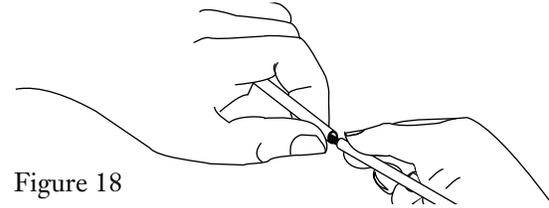

Figure 18
- Carefully flex the tube to break it at the score point. The break should be clean and free of rough edges (Figure 18).